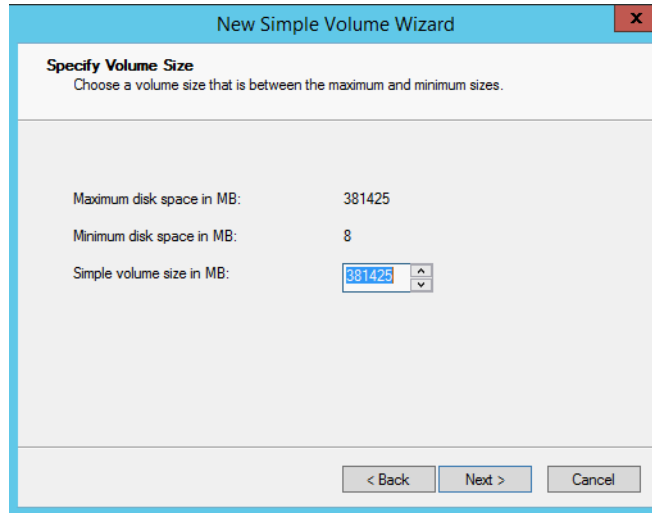

Figure 5-52 Specify a volume size
- For example, choose **New Simple Volume**. The volume creation wizard opens. Click **Next** and specify a volume size, as shown in Figure 5-52.